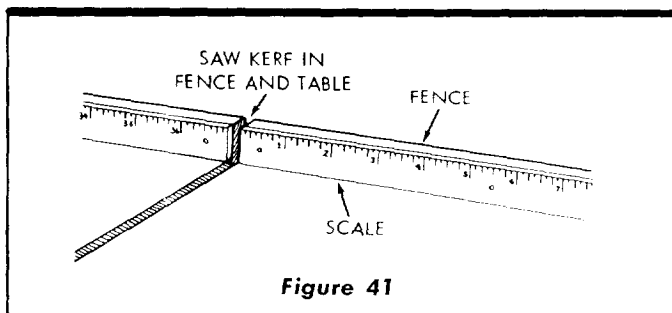

Figure 41
4. A scale may be attached to the fence to aid the operator when measuring lengths during cross-cut operations. This is accomplished by tacking a yard stick to the fence as shown. (See figure 41.)